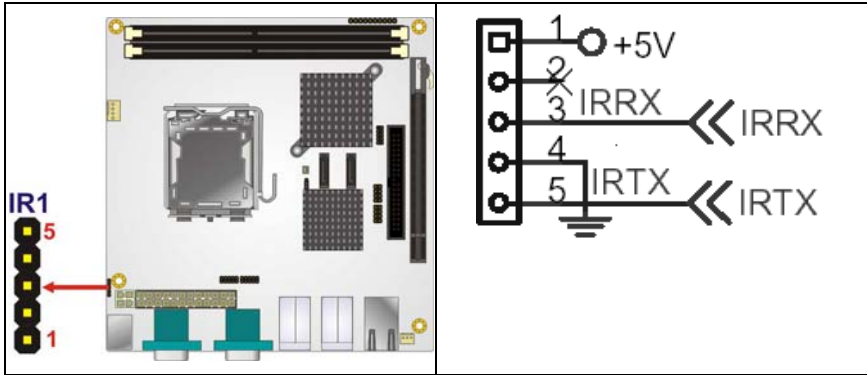

Figure 4-8: IR Connector Location
- CN Location:** See **Figure 4-8**